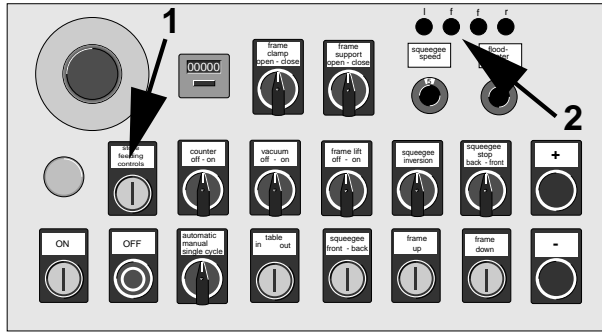

Figure 5-4. "Store feeding controls" button 1, indicators 2
Machines with pneumatically activated stop pins can also be equipped with optical feed controls. One feed control is located next to each stop pin. As soon as the substrate is correctly aligned, the corresponding indicators on the control panel light up (2, Figure 5-4).
- \* As soon as the corresponding indicator 2 (Figure 5-4) lights up, push the "store" button 1.